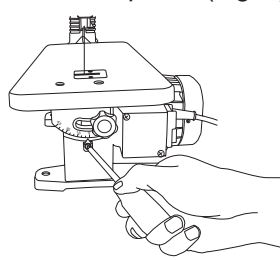

Fig. 6
- > Loosen the screw holding the bevel scale pointer and adjust pointer to 0°. Tighten the screw. Remember the bevel scale is a convenient guide but should not be relied upon for precision. Make practice cuts in scrap wood to determine if your angle settings are correct. Adjust the table as required. (Fig. 6)